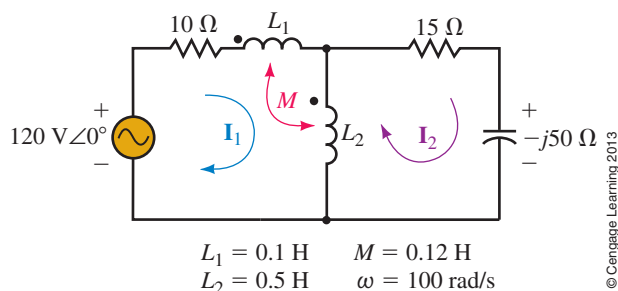

FIGURE 23-85
41. Write mesh equations for the circuit of Figure 23-85. (This is a very challenging problem.)